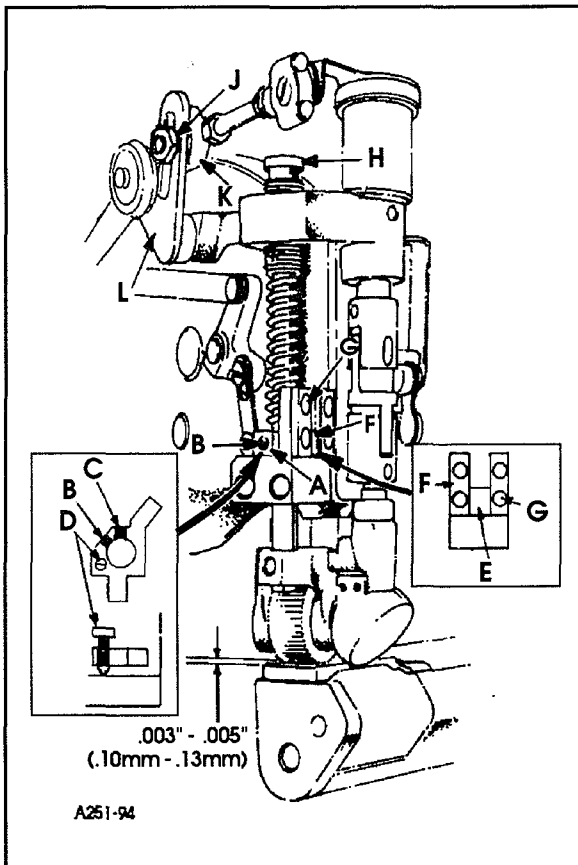

FIG. 16
When upper feed roller mechanism has been removed or replaced, .003" (.10mm) minimum to .005" (.13mm) maximum clearance should be maintained between roller and throat plate. With presser bar connection (A, Fig. 16) properly positioned and secured on roller presser bar with spot screw (B) and set screw (C). Turn screw (D) clockwise until a .003" (.10mm) to .005" (.13mm) shim can be inserted between roller and throat plate. Remove shim.
Regulate the pressure on the feed roller so that it exerts only enough pressure on the fabric to feed the work uniformly. Turning roller presser spring regulator (H, Fig. 16) clockwise to increase or counterclockwise to decrease the pressure.
After feed dog has been set to proper stitch length, roller should be set to maintain the same. To adjust the amount of travel of the roller, loosen nut (J, Fig. 16) move ball joint assembly (K) up in clutch driving segment lever (L) to acquire more feed action, moving down acts the reverse. Retighten nut (J).